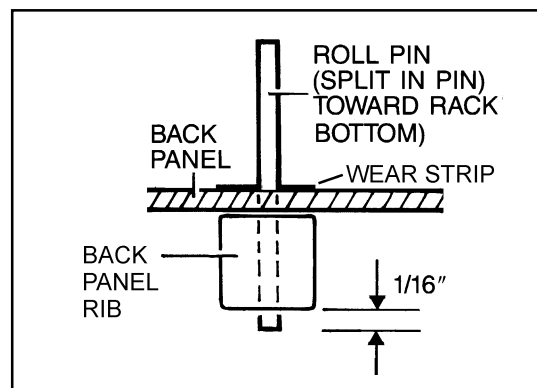

**Figure 10**
**Step 8:** Carefully place the front bearing panel over the three (3) turner shafts and between the side frames and the top frame (Figure 10). Secure loosely with Items 2 and 3.